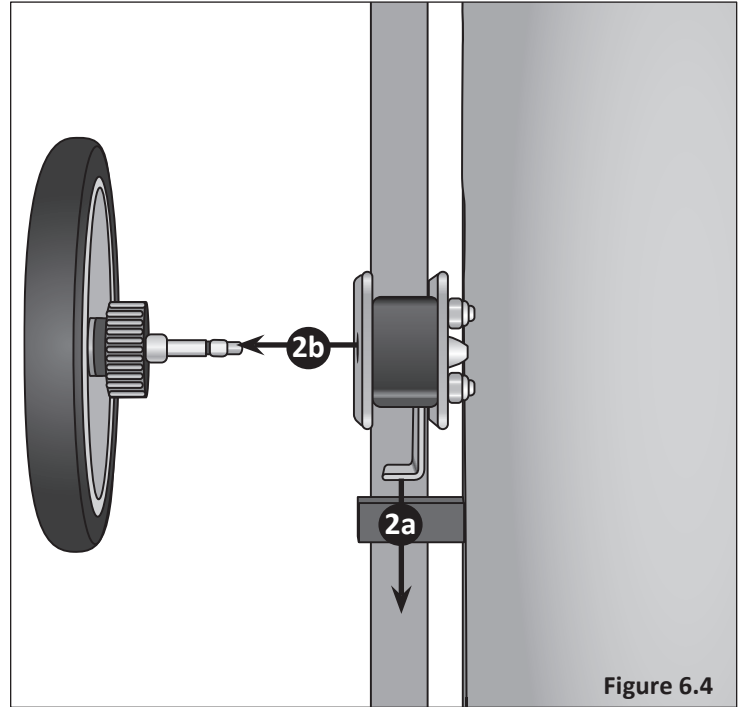

Figure 6.4
- 2 Remove the wheels by: **Figure 6.4**